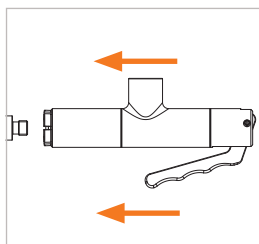

Figure 6
- ▶ With the hand lever (Pos. 2) pressed, insert the connector straight onto the test piece until the front seal (Pos. 7) touches the test piece (Figure 6). Doing so will prevent any damage to the front seal caused by any sharp edges on the test piece and ensure a correct connection.